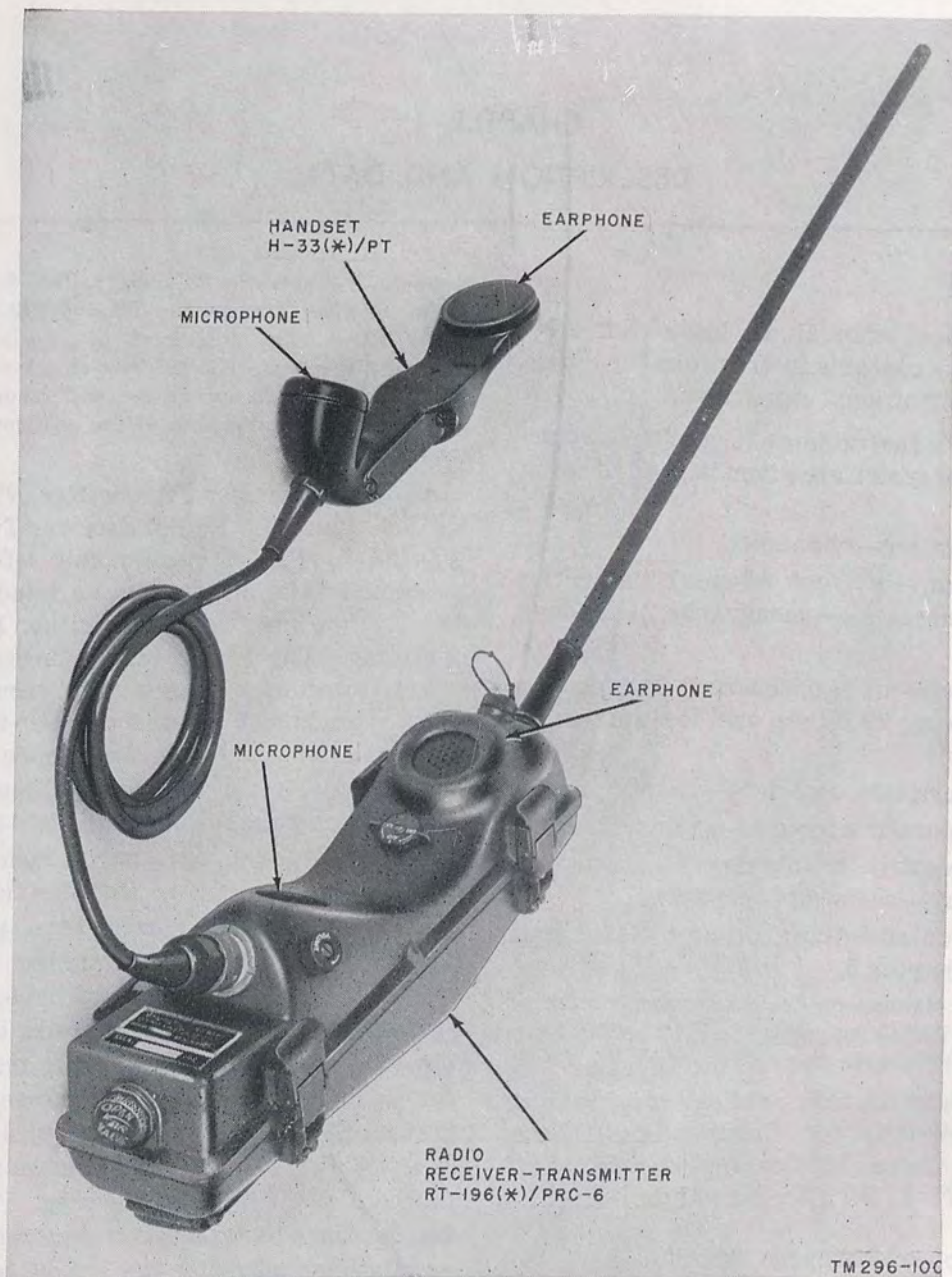
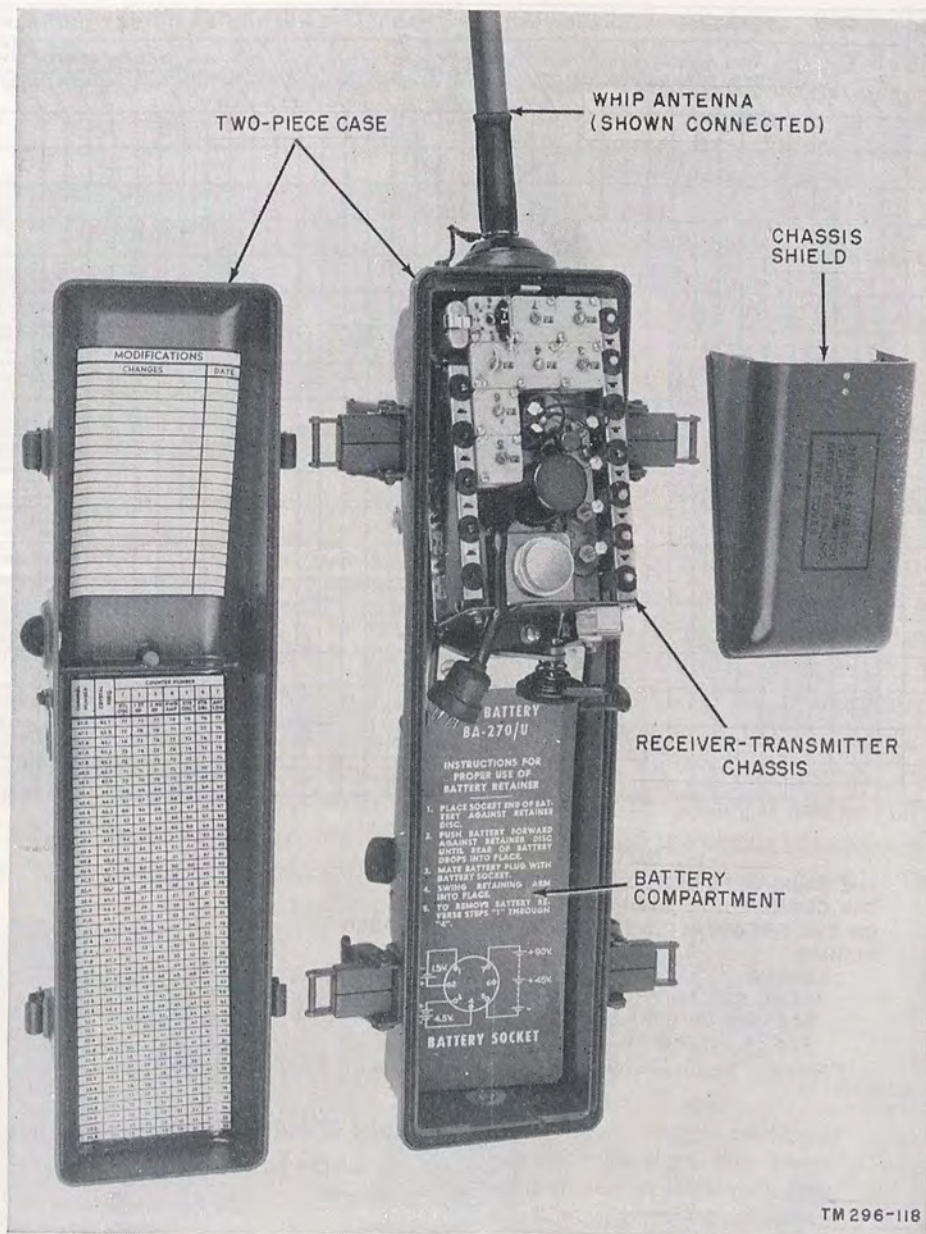

Figure 2. Radio Set AN/PRC-6, major components.
Figure 3. Radio Receiver-Transmitter RT-196(*)/PRC-6.
2. Description of Radio Set AN/PRC-6 (fig. 2)
Radio Set AN/PRC-6 is a 13-tube, low-power, portable radio set used for voice communication over short distances. The major components of the radio set are Radio Receiver-Transmitter RT-196(*)/PRC-6 and Handset H-33(*)/PT (fig. 2). The radio receiver-transmitter may be operated without the handset. Battery BA-270/U is required for operation but is not a component of Radio Set AN/PRC-6; it is issued separately.
a. Radio Receiver-Transmitter RT-196()/PRC-6 (fig. 3).* Radio Receiver-Transmitter RT-196(*)/PRC-6 is commonly referred to as a *handie-talkie*. It resembles a hand telephone (fig. 2) and may be held in either hand when operating. The handie-talkie consists of a receiver-transmitter chassis with vacuum tubes; a cover or shield for the receiver-transmitter chassis; a microphone and earphone (fig. 2); a flexible steel whip (vertical) antenna; and a two-piece cast-magnesium case held together by four lever-type latches (two on each side of the case). The receiver-transmitter chassis, the microphone and earphone, and the space for the battery are contained within the magnesium case. All operating controls of the handie-talkie are mounted on the outside of the case. When the antenna is being used, it is mounted to a connector on the outside of the case. When the antenna is not in use, it is wrapped around the case (A, fig. 14). An adjustable strap is attached to the outside of the case. The operator can use the adjustable strap as a shoulder strap or sling for carrying the handie-talkie on his back (fig. 1) or for additional hand support when operating the handie-talkie (fig. 22).
b. Handset H-33()/PT (fig. 2).* The handie-talkie may be operated without the handset; the handset permits the operator to use the radio set when the handie-talkie is carried on his back (fig. 1). The handset consists of a microphone and an earphone contained within a molded plastic case; and a 5-foot cable with a plug on the end. When the handset is used, the plug is connected to a connector on the case of the handie-talkie.
Frequency calibration chart (fig. 12)	The chart, mounted on inside of case (fig. 3), lists the settings of the seven counters for each of the 43 channels.